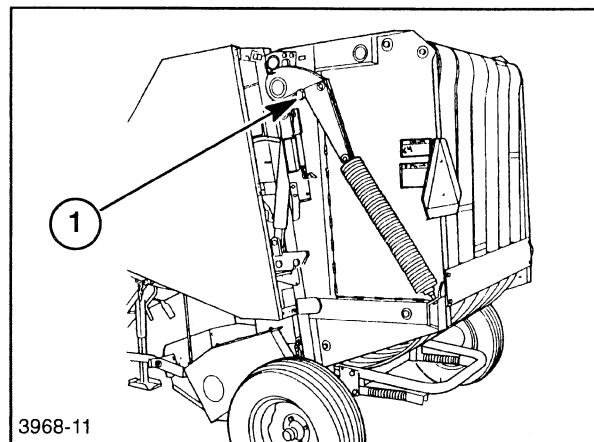

Figure 7-52
4. Raise the tailgate and install bolt, 1, Figure 7-52.